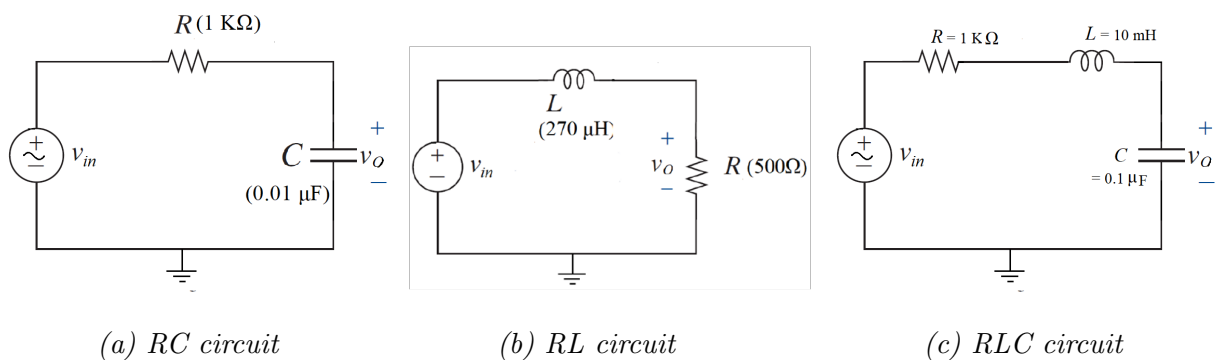
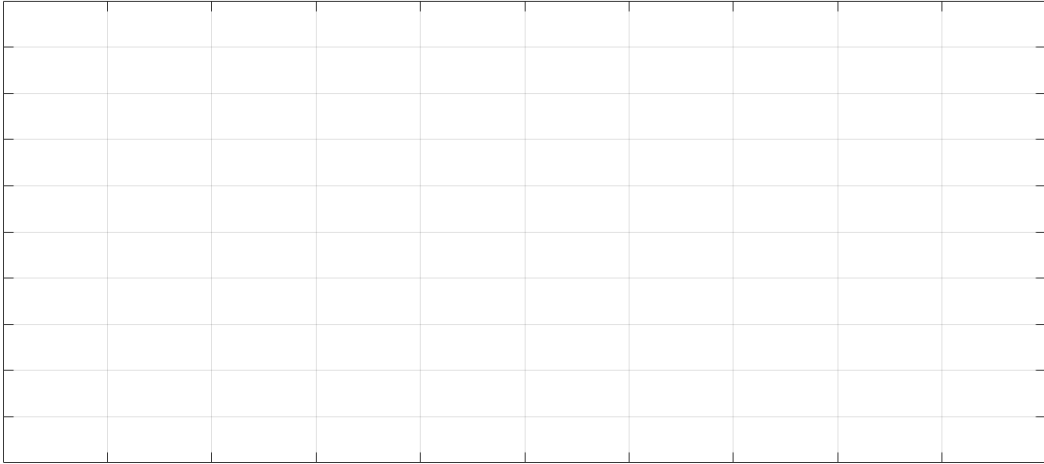
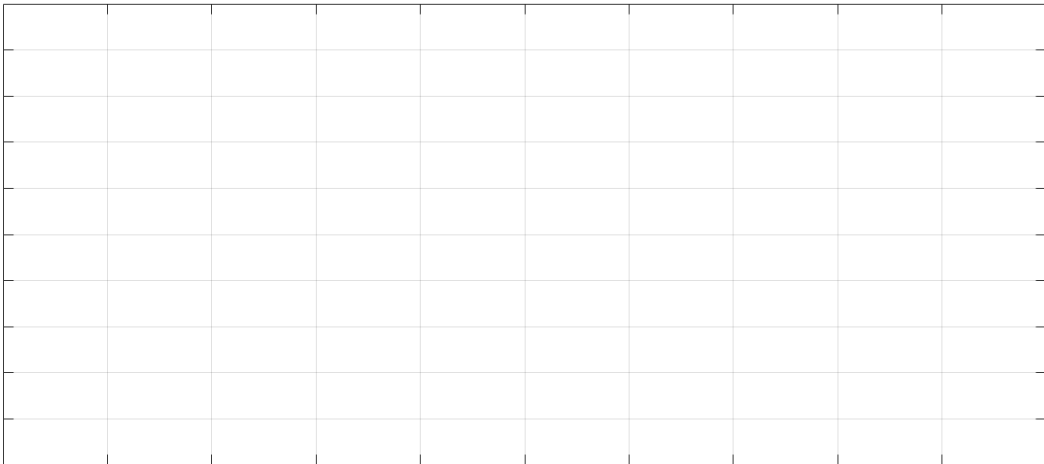

Figure 1: Various circuits for Task 1
Figure 2: Step response of RC, RL and RLC circuit.
Figure 3: Impulse response of RC, RL and RLC circuit.
a) Determine the transfer function of the three circuits given in Fig. 1.
b) Plot in Fig. 2, the step response of RC, RL and RLC circuit given in Fig. 1.
c) Plot in Fig. 3, the impulse response of RC, RL and RLC circuits given in Fig. 1.